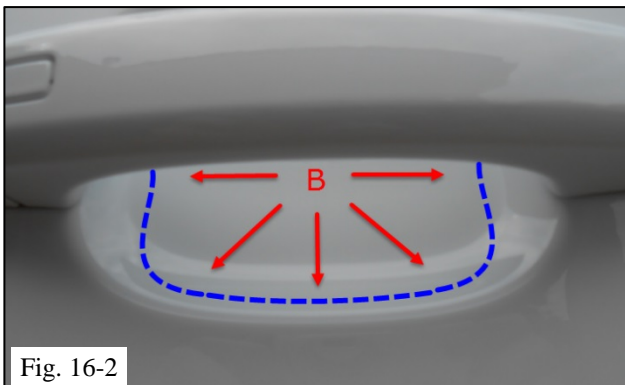

Fig. 16-2
- (b) Continue using your thumbs to remove the solution and work the piece down starting at the center gradually moving down and out towards the outside edges (Fig. 16-2).